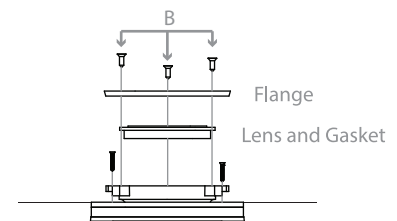

Fig. 4b
Be certain to clean gasket recess before placing Lens and Gasket assembly into the gasket recess in the luminaire (see Fig. 4b). Make sure that the lens and gasket are clean.
**Place Flange on top of gasket and lens assembly and tighten the screws evenly by hand. Take care to tighten the screws in an opposing formation, do not tighten clockwise/anticlockwise as this can cause one side to overtighten leaving the other side of the flange unable to compress the O Ring (See Fig. 4b).**